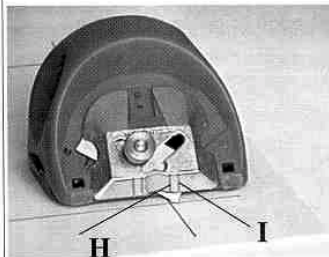

Figure 2
Place the tip of the blade on a line to be cut. The index mark (H) shown in Figure 2 should be over the intersecting pencil line. Push the cutter down so the blade penetrates the mat. Place a straight edge against the cutter and along the pencil line. Press down on the cutter while sliding it along the straight edge. Stop when the index mark (K) on back of the cutter reaches the cross line at the opposite corner, (Figure 3). At this point the index mark (I) will also line up with the cross line. Rotate the mat one-quarter turn and repeat until all four sides have been cut.